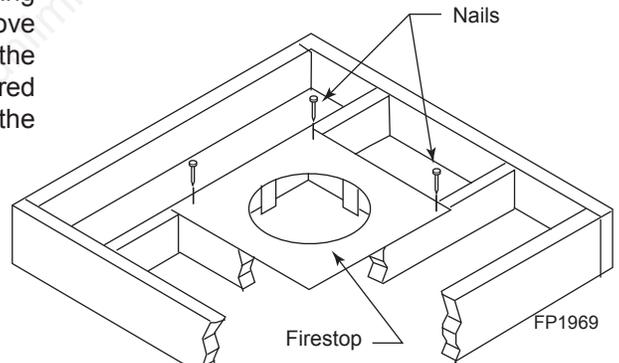

Figure 34 - If area above is a room, install firestop above framed hole as shown
1. Cut a 9½" (241 mm) square hole in the ceiling using the locating hole as a center point. The opening should be framed to 9½" x 9½" (241 x 241 mm) inside dimensions as shown in Figure 34 using framing lumber the same size as the ceiling joist. If the area above the ceiling is an insulated ceiling or a room, nail firestop from the top side. This prevents loose insulation from falling into the required clearance space. Figure 34. Otherwise, install firestop below the framed hole.